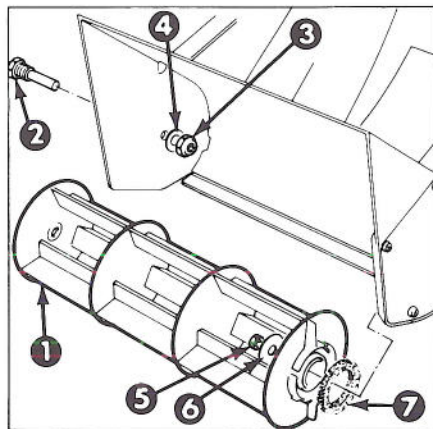

Figure 6
1. Remove the rotor pin, locknut and washer using a 9/16" open end wrench and a 9/16" socket (Fig. 6).
2. Remove the locknut and washer from the opposite end (Fig. 6).
3. Remove the rotor and felt washer (Fig. 6).